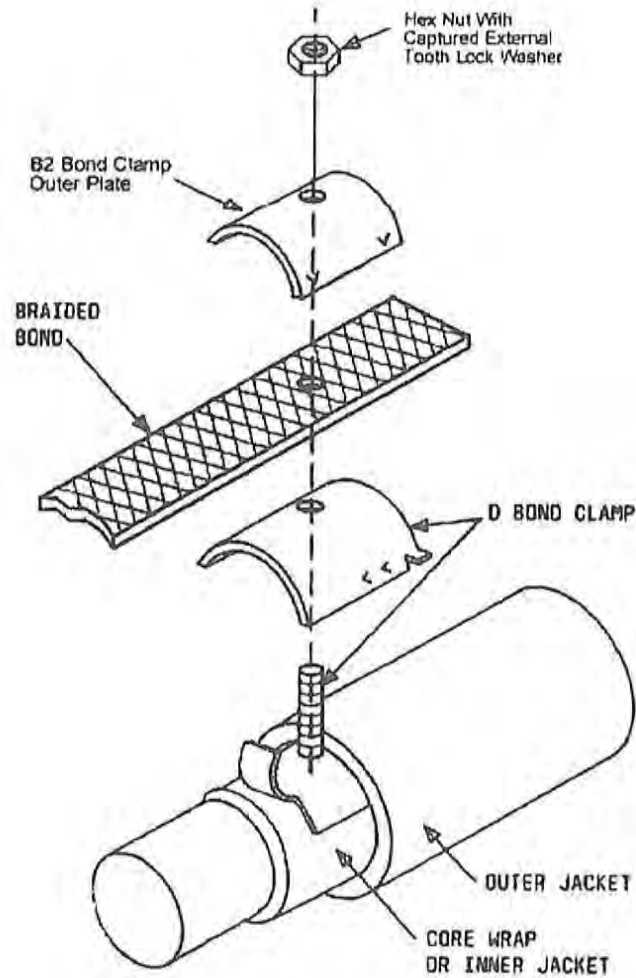

Figure 13 - Attaching Braided Bond Strap Without Eyelets to Bond Clamp
4.06 Attach braided bond **without** eyelets to the stud of a B, Mini B, Canadian Mini, or D bond clamp using an outer plate from a B2 bond clamp (Figure 13). Secure the outer plate with a hex nut with a captured external tooth lock washer using a torque of 10 to 40 inch-pounds.